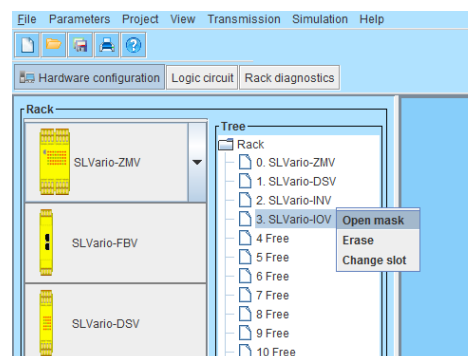

Fig. 2-9
- Right-click and select the "Open mask" function to open the parameter mask for the modules. (Fig. 2-9)